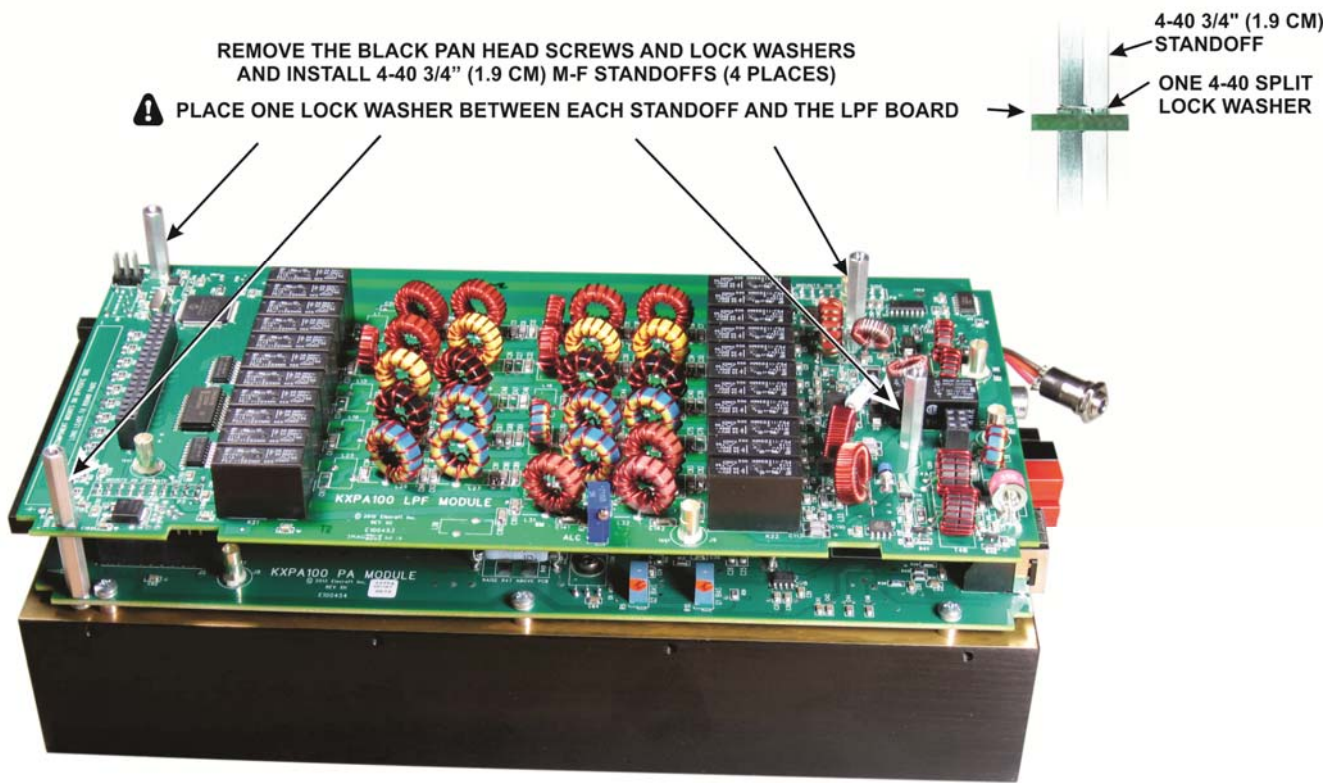

Figure 6. Installing Standoffs for the KXAT100 Module.
□ There are four black pan head screws securing the LPF Module to the standoffs below. Remove each screw and lock washer and replace it with an M-F standoff as shown in Figure 6. Save the screws and lock washers. Place one split ring lock washer between each standoff and the LPF Module. The washers are critical to establish the correct spacing between the LPF and ATU module boards so the LEDs and switches on the KXAT100 module line up with the openings in the front panel cover later.
⚠ The front panel for a KXAT100 with the optional ATU is shown. The alignment of the panel with the switches and LEDs requires more care when the ATU is installed. Start securing the front panel with screws, lock washers and spacers in the opposite corners of the front panel and check to ensure the TUNE and MODE switches move freely. They only move a small amount when pressed but you should feel a definite movement. If necessary, loosen the hardware at one corner and adjust the front panel position slightly. When you are satisfied, install the remaining screws, lock washers and spacers. If you failed to install two lock washers under each standoff as shown in Figure 6 on page 8, the two rows of LEDs will be too close together to fit in the openings. In that case you must disassemble the unit and install the lock washers as shown in Figure 6 on page 8.